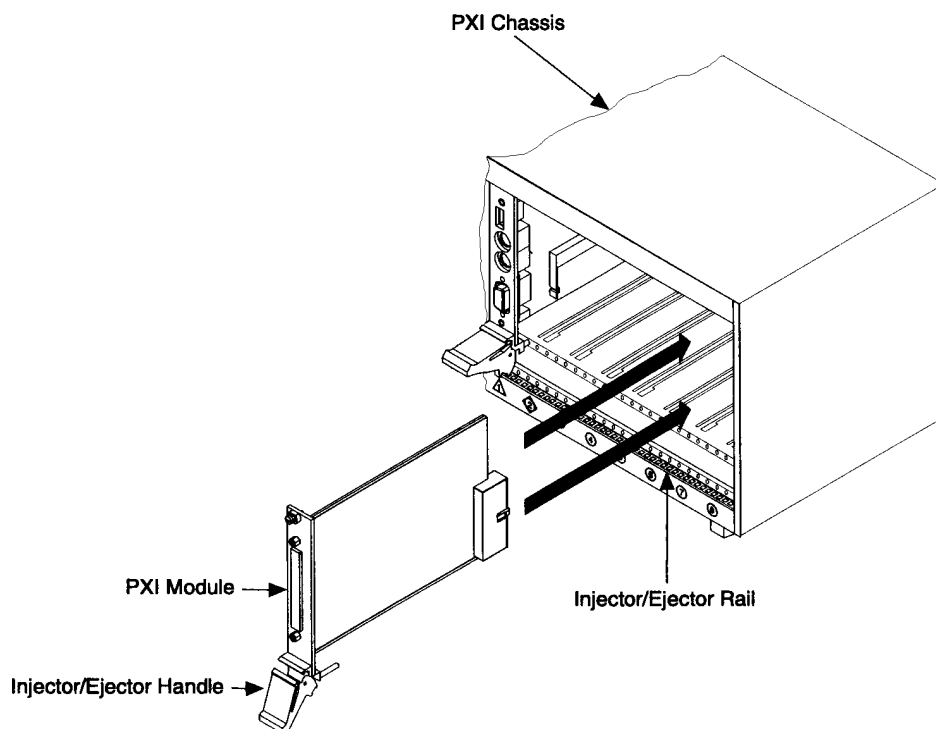

Figure 2.1 - Installing the module into a PXI Chassis
5. Hold the handle whilst slowly sliding the module into the card guides until the handle catches on the injector/ejector rail (refer to Figure 2.1).